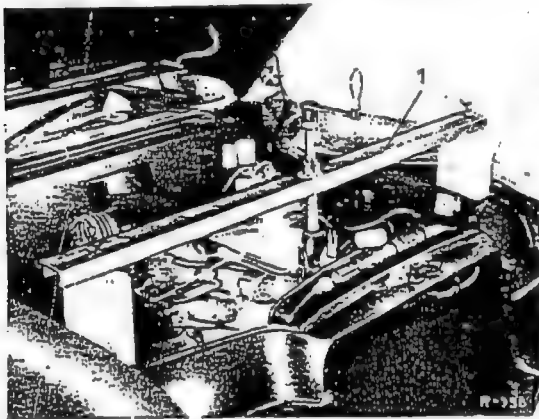

Fig. 33-1/15
12. Place Supporting Bracket 111 589 03 31 for the engine right and left on the cowl. Suspend the engine by the water pump and raise it slightly (Fig. 33-1/15).